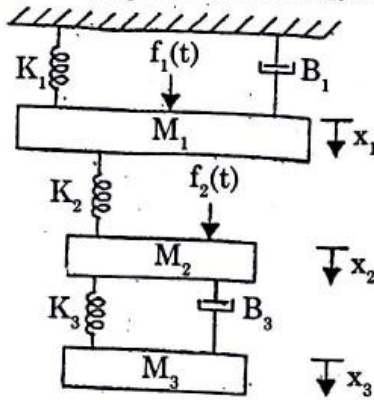

Fig 11. a)
11. a) Write the differential equations governing the mechanical system shown in Fig 11.a. Also draw the force voltage and force current analogous circuit and verify by writing mesh and node equations. (13)